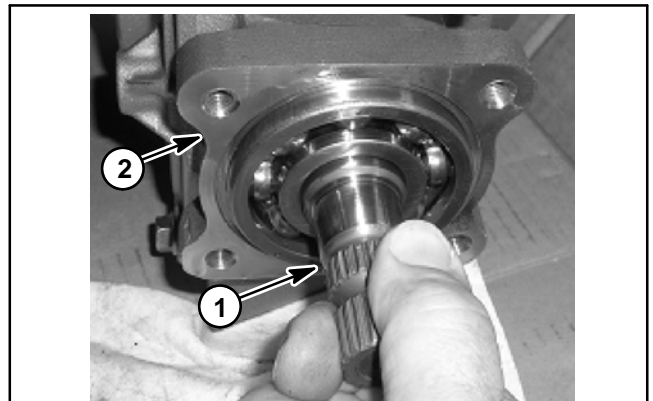

Figure 12
3. Remove the pinion shaft from housing by pulling it out of the gear case by hand (Fig. 12).